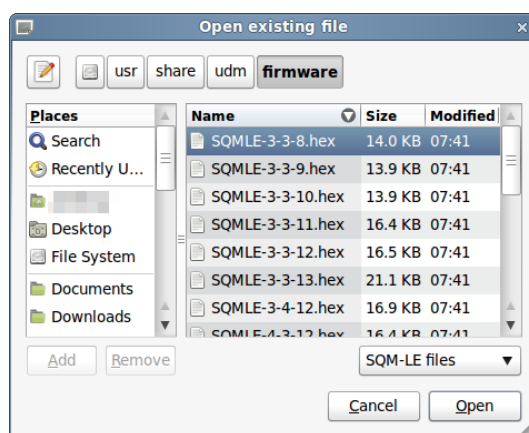

Figure 7.37: Firmware selection
1. Press the “Select Firmware” button to choose the firmware file to load in to the SQM as shown in Figure 7.37: